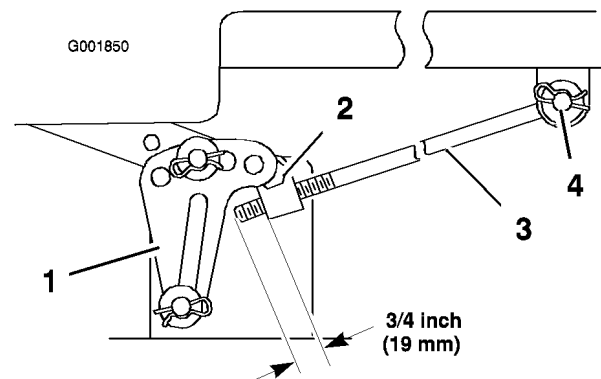

Figure 43
5. Measure the length of the rod extending out of the adjusting block on the sides of the chassis (Figure 43).
6. If the rod length is **not** a 3/4 inch (19 mm), remove the hairpin cotter and washer from the end of the adjusting rod (Figure 43) and turn the rod until the 3/4 inch (19 mm) dimension is obtained.